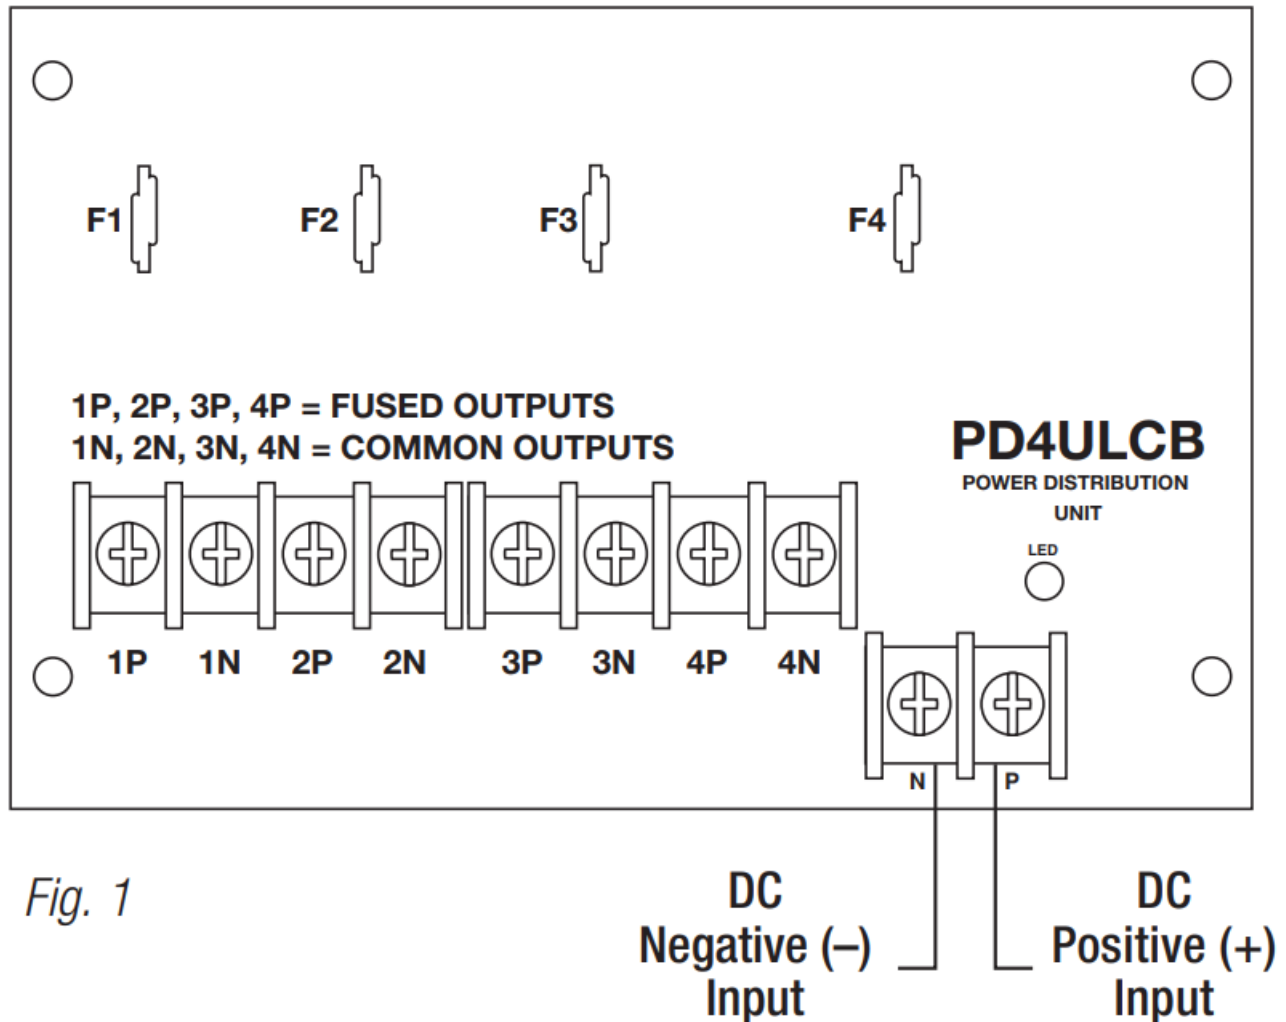

Fig. 1
3. Connect the desired power supply output to the terminals marked [INPUT] (Fig. 1).
Note: Left terminal is NEG. (–) and right terminal is POS. (+) (Fig. 1).